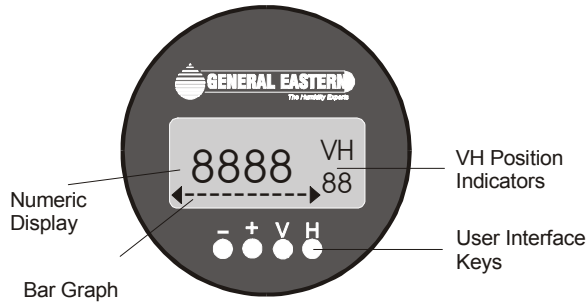

Fig. 15
The display of the DewPro MMY30 continuously shows the current matrix location using the vertical (V) and horizontal (H) coordinates to designate the row and column, respectively. The bar graph represents the output current in an analogue fashion (refer to Figure 15). See the Appendix for an enlarged overview of the matrix.